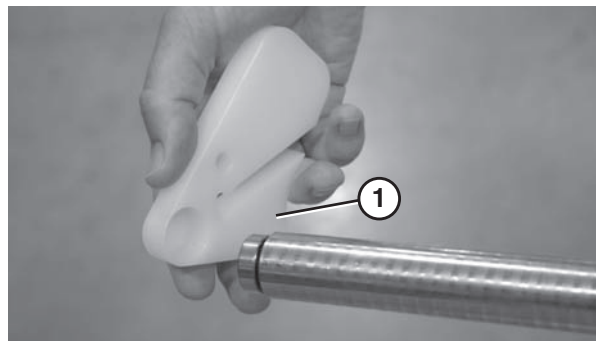

Figure 96
2. Remove the nose bar puck holders (**Figure 96, item 1**).